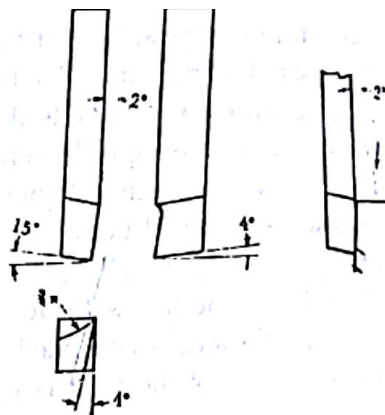

Figure 7.28 A left hand side finishing tool
4. A left hand side facing tool (finishing) (Fig.7.28)